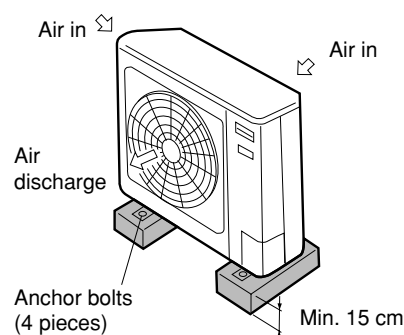

Fig. 1-7
- provide a solid base (concrete block, 10 × 40 cm beams or equal), a minimum of 15 cm above ground level to reduce humidity and protect the unit against possible water damage and decreased service life. (Fig. 1-7)